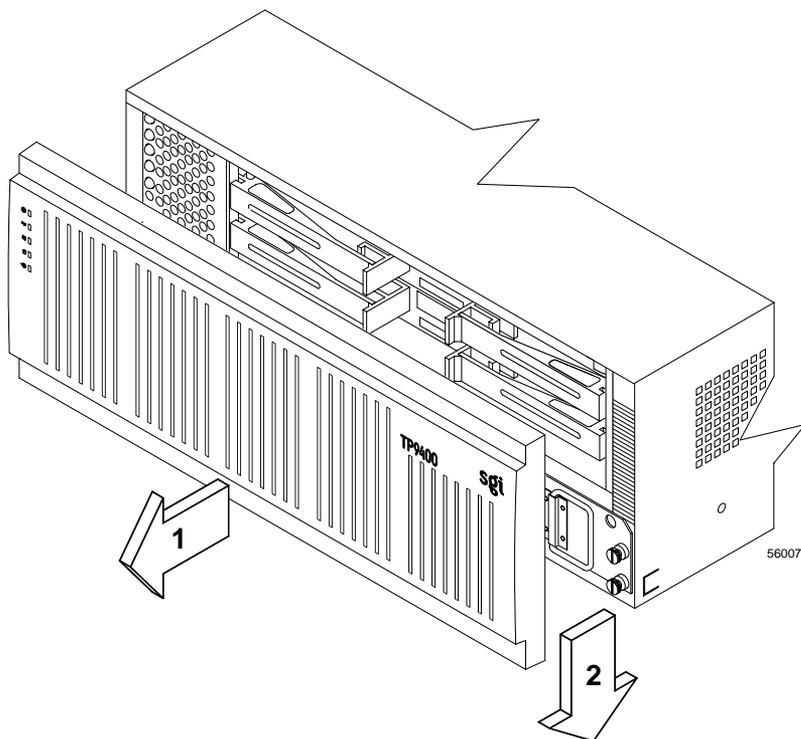

Figure 4-1 Removing the Front Cover of the Controller Enclosure
3. Remove the front cover (Figure 4-1).
7. Replace the front cover on the controller enclosure (Figure 4-1 on page 50).
6. Replace the front cover by reversing the sequence in Figure 4-1 on page 50.
2. Remove the front cover (Figure 4-1 on page 50).
6. Replace the front cover by reversing the sequence in Figure 4-1.